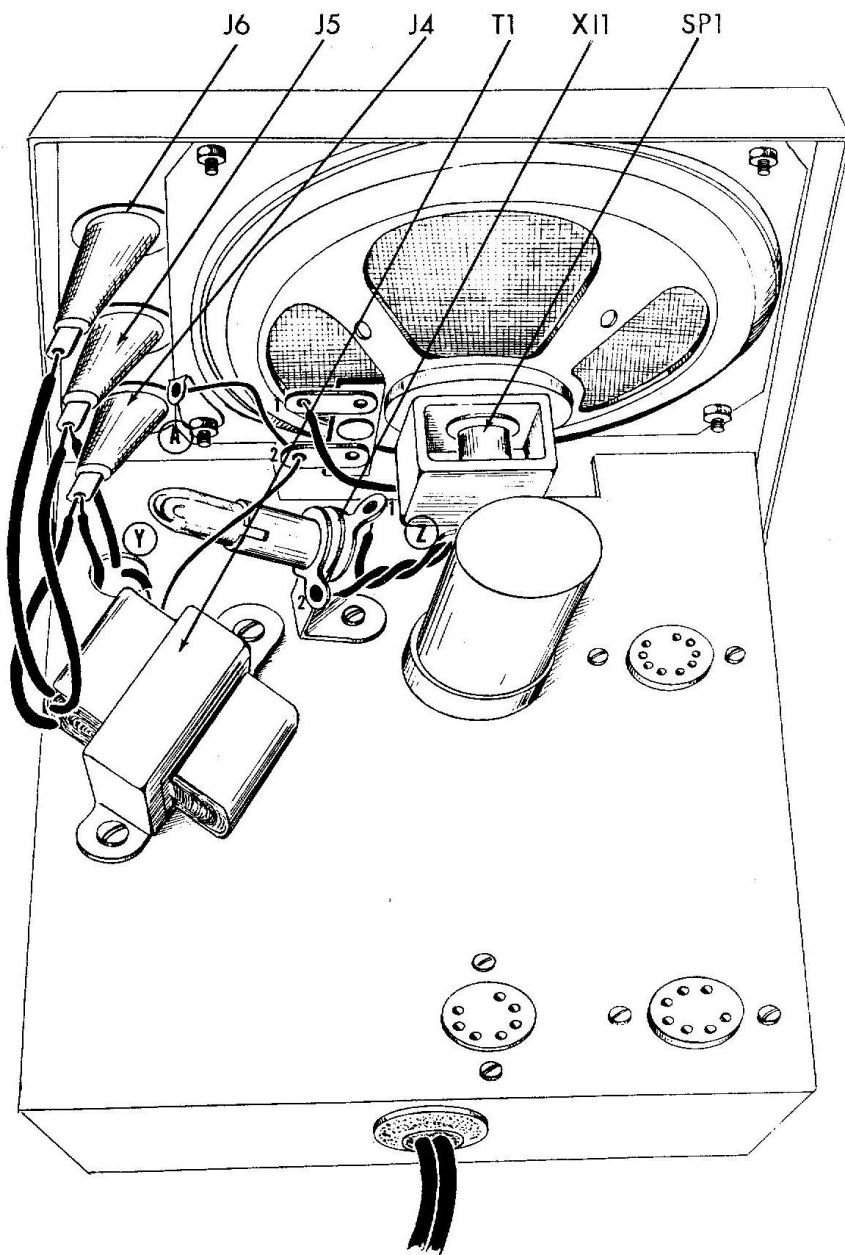

Fig. 3
4. () Fig. 3. Connect a 2" piece of bare wire covered with a 1 1/2" piece of spaghetti from SP1-2(C) to ground lug "A" (S).
1. () Fig. 3. Cut the upper enameled lead from the output transformer, T1, to 2". Scrape off about 1/4" of the enamel insulation from the end of the wire and tin with some solder. Connect to SP1-2 (S).
2. () Fig. 3. Connect one end of a 5" piece of yellow wire to X11-1 (S) and one end of a 5" piece of brown wire to X11-2 (S). Twist the leads together and push through hole "Z".
3. () Fig. 3. Cut the lower enameled lead from the output transformer, T1, to 3" and cover with a 2 3/4" piece of spaghetti. Scrape off about 1/4" of the enamel insulation from the end of the wire and tin with some solder. Push this lead through hole "Y".
4. () Fig. 3. On output transformer, T1, cut the brown lead to 3 1/2", the red lead to 2" and the blue lead to 1 3/4". Connect the blue lead to J4 (C), the red lead to J5 (C) and the brown lead to J6 (S).
5. () Fig. 3. Connect one end of an 8" piece of blue wire to J4 (S). Push the other end through hole "Y".
6. () Fig. 3. Connect one end of a 5" piece of red wire to J5 (S). Push the other end through hole "Y".
7. () Fig. 3. Connect one end of a 5" piece of blue wire to SP1-1 (S). Push the other end through hole "Z".